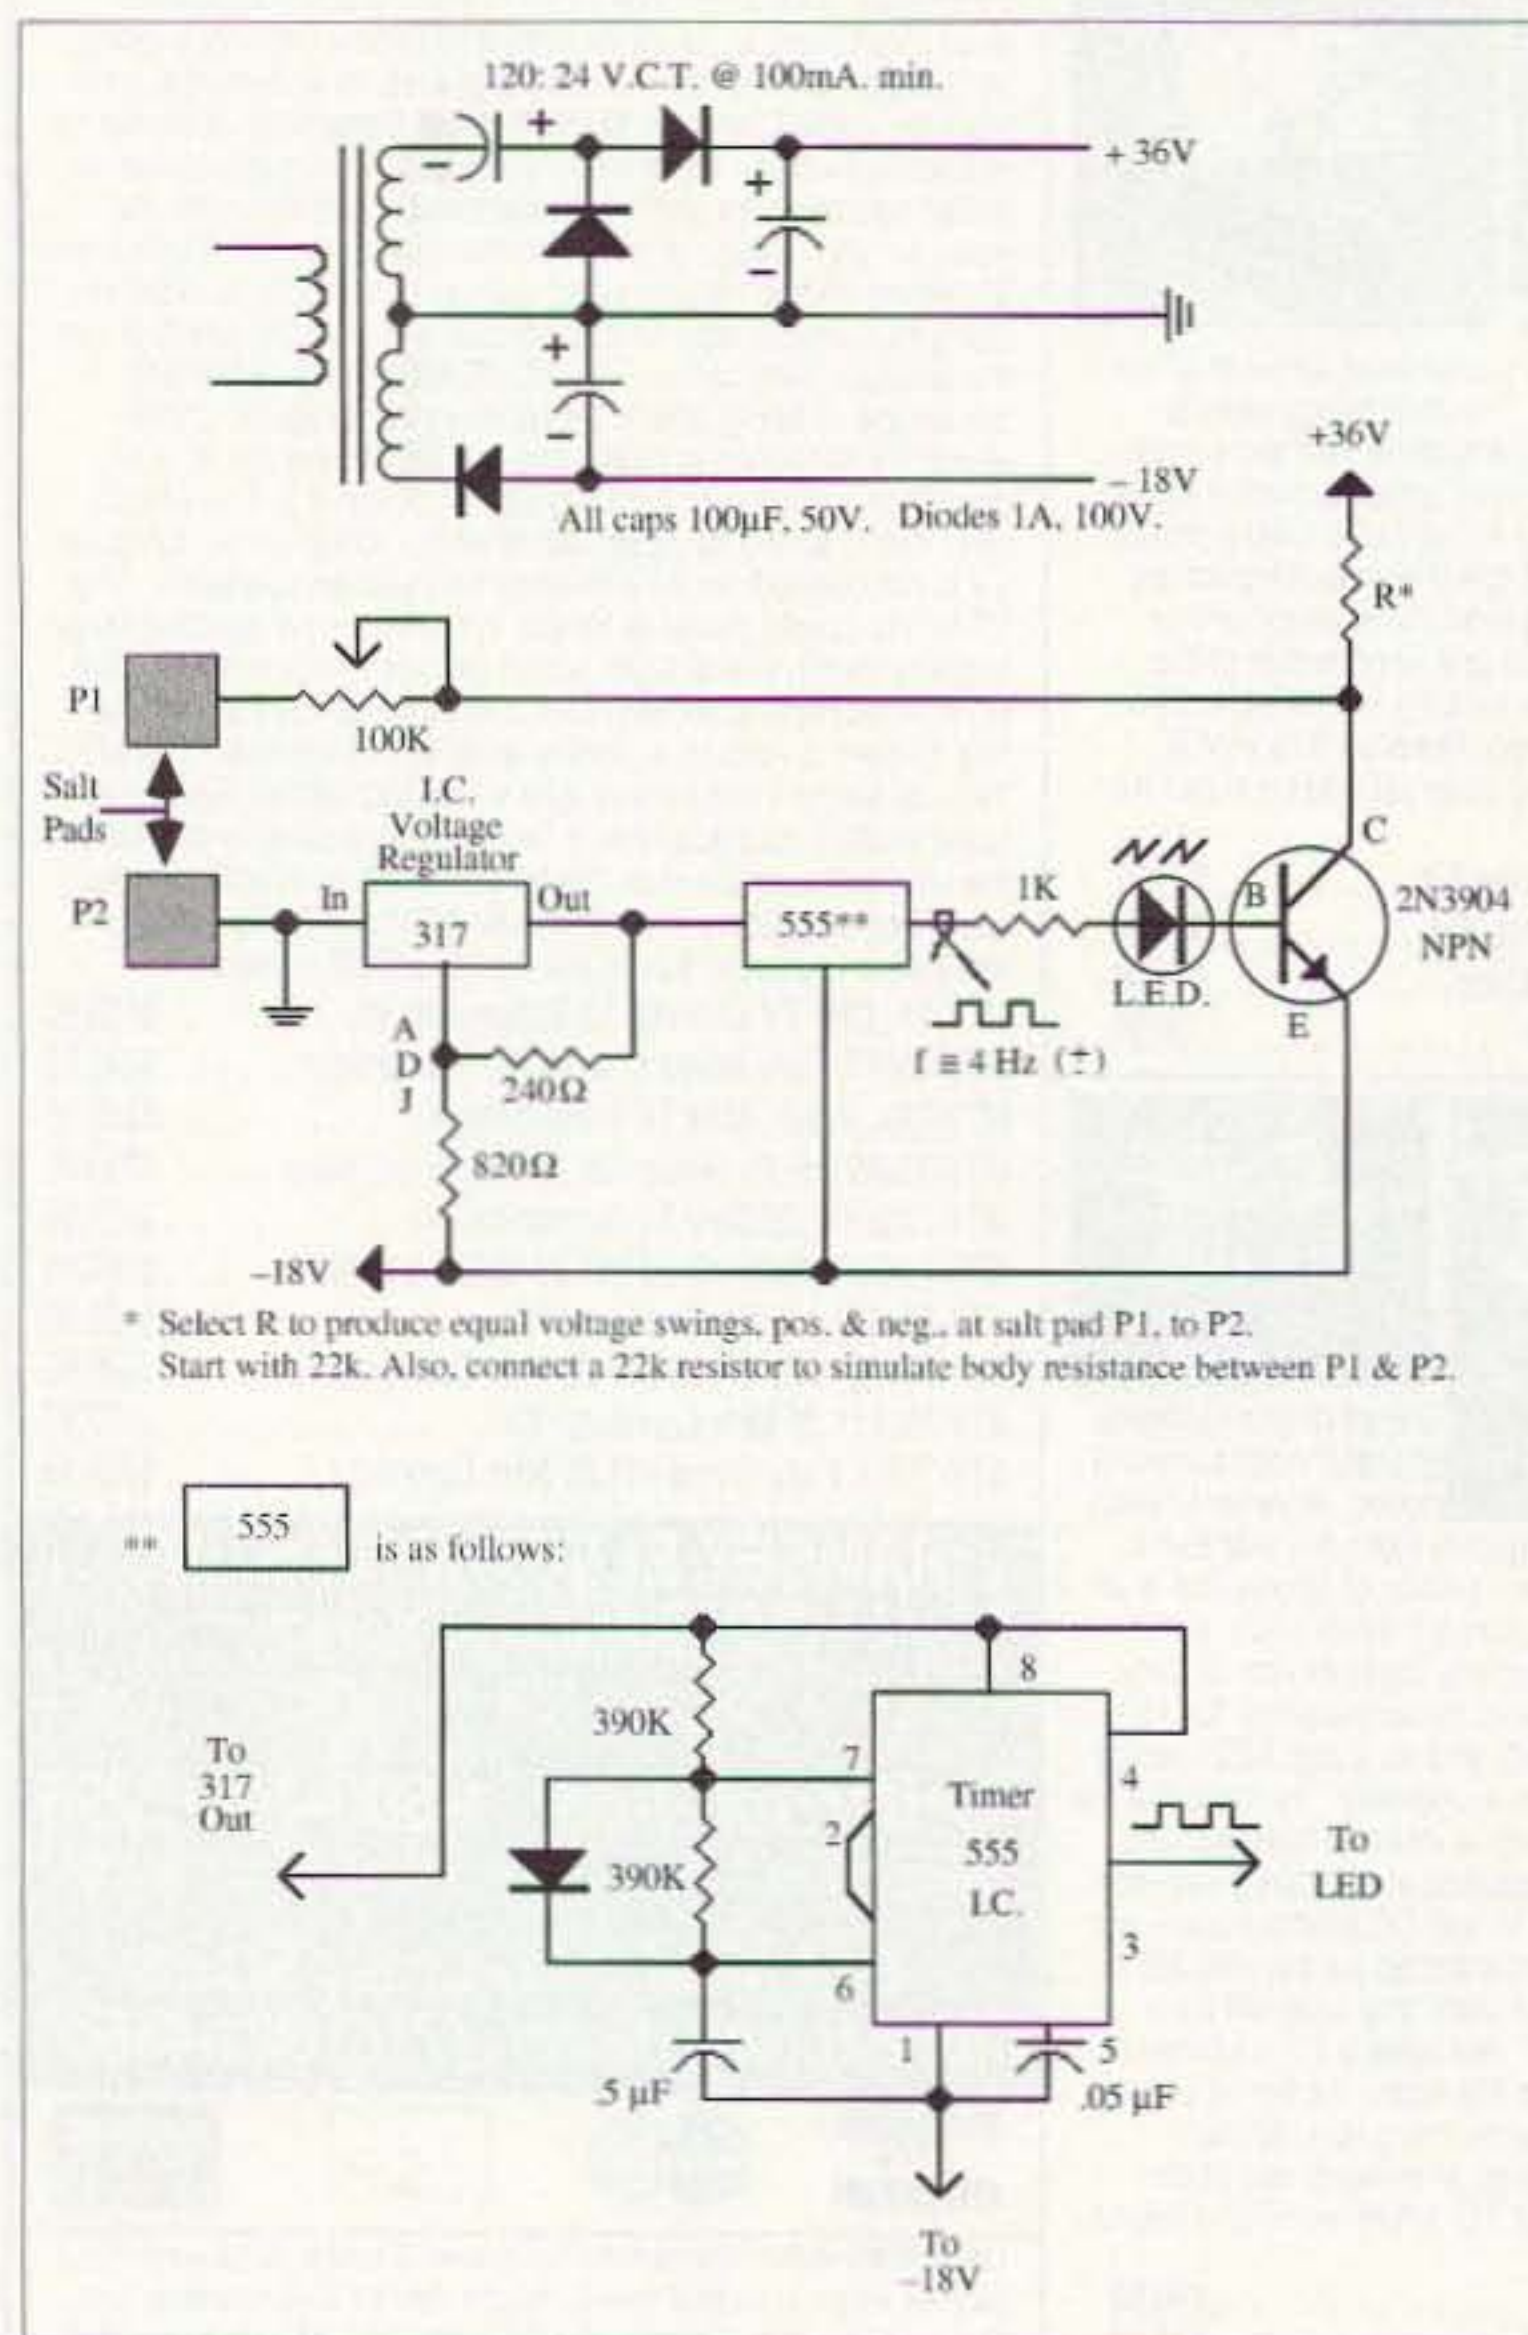

Fig. 1. George Bergstrom's purifier.
**George Bergstrom, Rancho Cordova CA.** Your appearance on the Art Bell show was fascinating. Being an electronics hobbyist I decided to build a "purifier" from your description. Here's the schematic I put together (Fig. 1). Your "AIDS Info" booklet recommendation to drink 8 oz. of water before and after is apparently important since I don't drink much water unless it has Sanka in it and ended up with two nearly painless boils on my back, which quickly cleared up. I've already noticed improvements in my skin and nails. I started with one salt pad at the ankle and the other just below the knee, but now I'm using one at the left